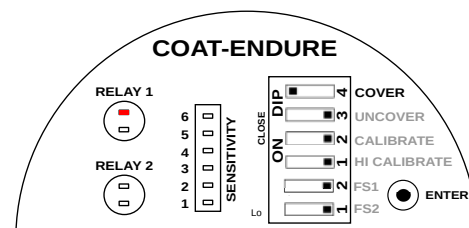

Figure 7: Cover Delay Switch Position
2. To set the Cover Delay, set the COVER switch to CLOSE position as shown in Figure 7. (CLOSE is the opposite of OPEN for a DIP switch.) The STATUS RED LED will glow.